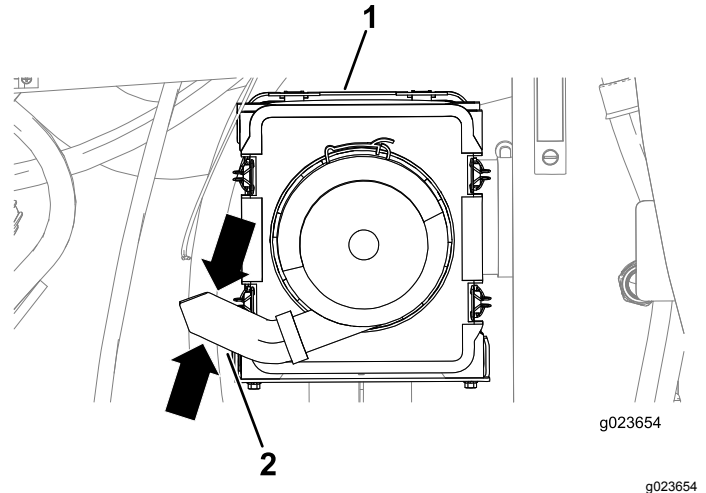

Figure 87
3. Squeeze the sides of the dust valve on the air-cleaner cover to release any collected water, dust, or dirt from the valve. (Figure 87).